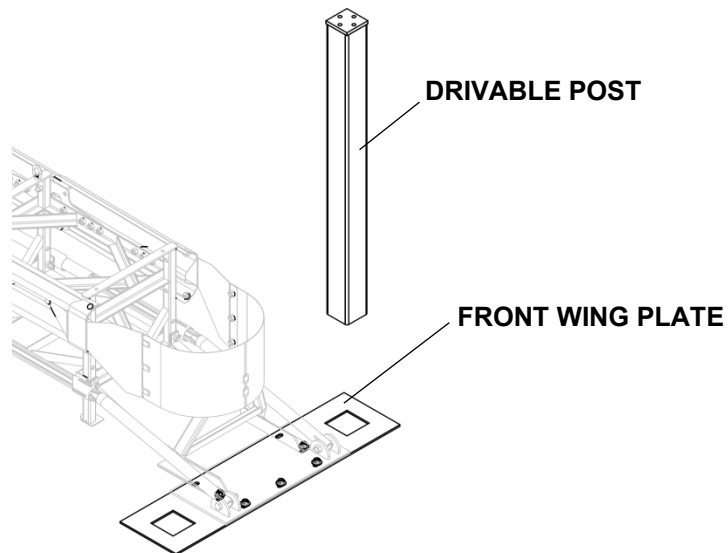

Figure 5
2. Once the system is in place, position pile driving equipment over a square hole in the outboard Wing Plate (see Figure 5).
3. Place the 6" x 6" x 72 3/4" Drivable Post into the square hole in the Wing Plate (see Figure 5). Use a small level to ensure the Post is straight for pile driving. Drive Post into the ground until the Post's Top Plate is flush with the top of the Wing Plate.